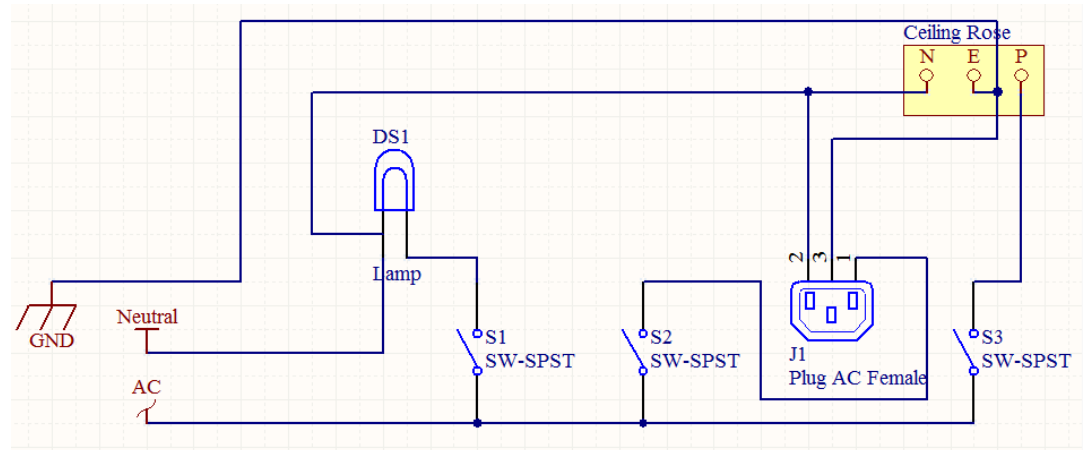

Figure 5: Redistribution Board
2. Connected the circuit according to the circuit diagram as given in Figure 5, keeping the following in mind